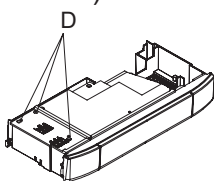

Figure 15.8
- Loosen screws D and remove the service panel (figure 15.8).